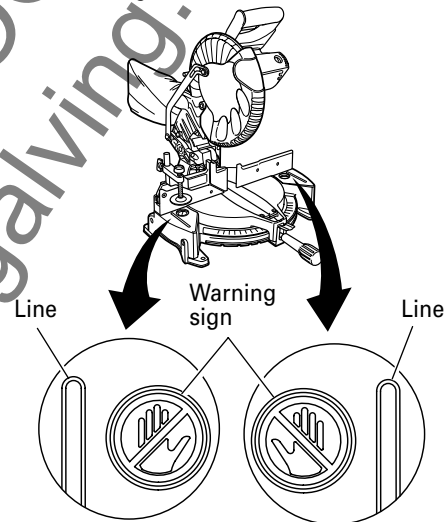

Fig. 18
- \* Never place your limbs inside of the line next to warning sign while the tool is being operated. This may cause hazardous conditions (see Fig. 18).